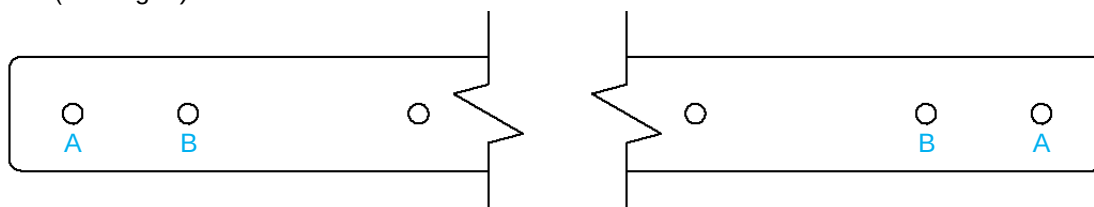

Figure 2 - (Belt tension adjusting – holes "A" and "B")
- Attach the belt to one side of the clamp through one of the first two holes in the belt ("A" or "B" - Fig. 2). The two holes allow for different levels of safety belt tension when securing the container.
- When securing the receptacle, if the belt is too loose or too tight, change the first attachment hole between "A" and "B" (see Fig. 2)